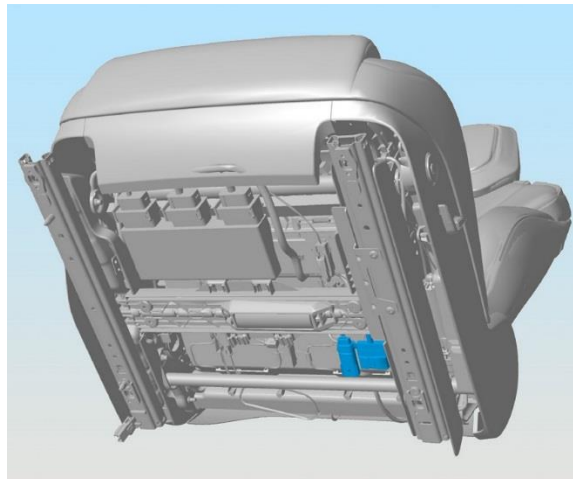

Figure 22. Seat electrical connectors
- b. Carefully lean the LH seat back and disconnect the electrical connectors from the bottom of the seat (Figure 22).